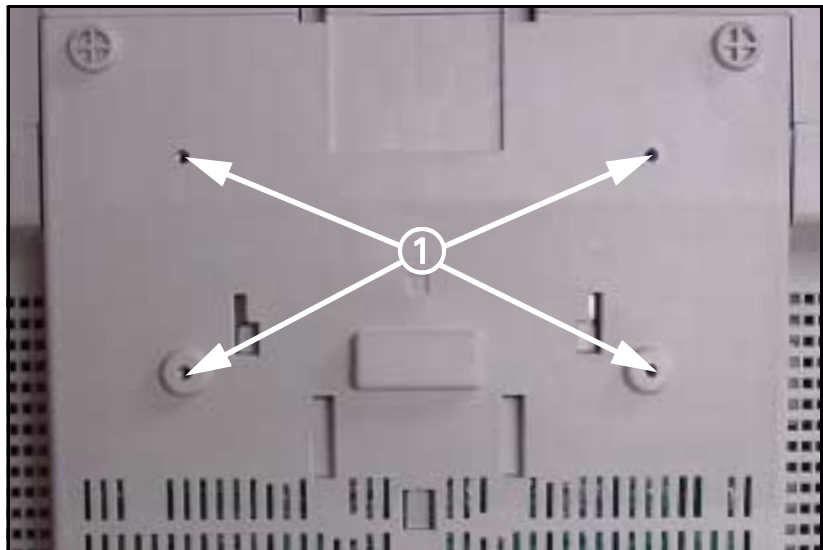
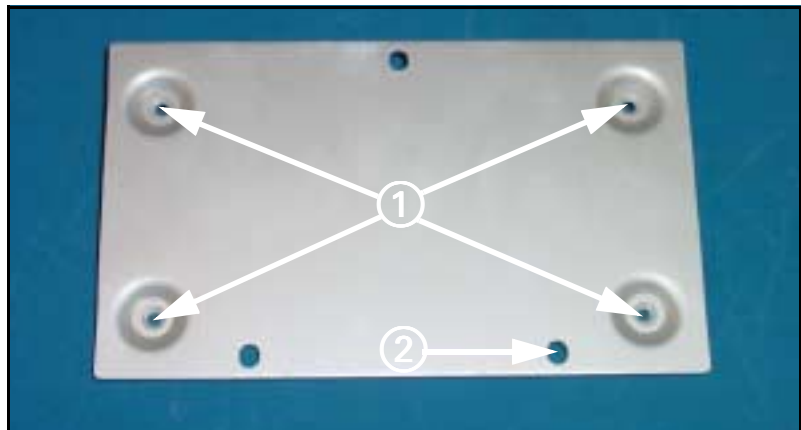

Figure 5-1 Monitor (bottom view)
Figure 5-2 Mounting plate
- 2) Align clearance holes on mounting plate (① in Figure 5-2) to threaded holes on bottom of monitor (① in Figure 5-1), orientated so that raised area around holes on plate are against bottom of monitor.
Note: This creates a gap so that the plate can easily slide into mounting bracket. Make sure the drill hole (② in Figure 5-2) is towards back of monitor. This hole is used for a locking pin from the mounting bracket.